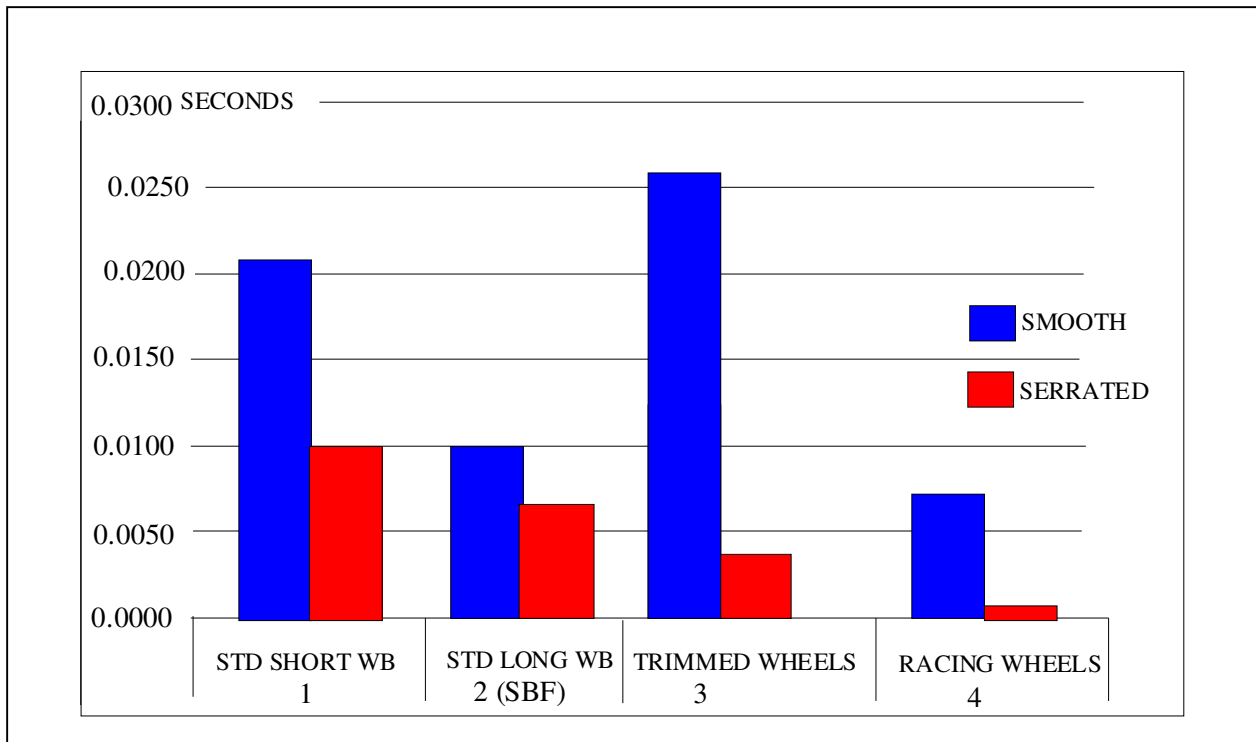

Figure 3 – The Standard Deviation, representing the spread in times, for the 10 runs used in each of 8 averages in **Fig 2**.
The SBF under Car 2 means “Simple But Fast” as explained in the Virtual Race ((VR) Program. The above graphs the data shown in **Table 1** and shows the substantial improvement afforded by the micro-ridged running surface. These improved times thus represent more closely the car capability itself rather than external effects imposed by the racetrack. In **Figure 3**, we see the spread in times is much larger on a smooth running surface.